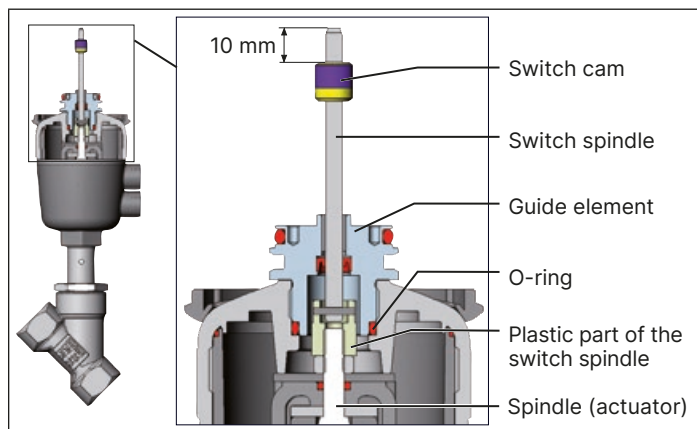

Fig. 6: Installation of the switch spindle (2), series 20xx
- ▶ Press the O-ring downwards into the cover of the actuator (see Fig. 6).
- ▶ Position the switch cam on the switch spindle so that the distance between the switch cam and top of the spindle is 10 mm (see Fig. 6).